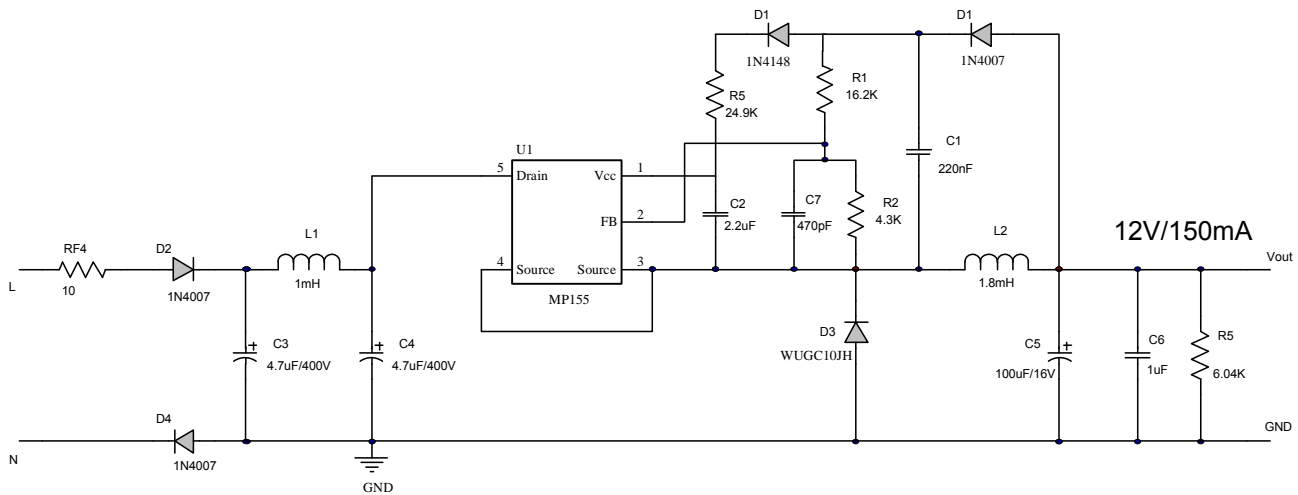

Figure 13: Buck Converter Application Using the MP155
- Figure 13 shows a detailed buck converter reference design for the MP155. The inductor value is the most important component for this converter. Poor inductor selection may not deliver the desired rated power.